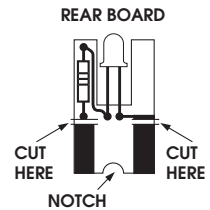

Fig. 2
- File notch in rear board to clear wires (Fig. 2).